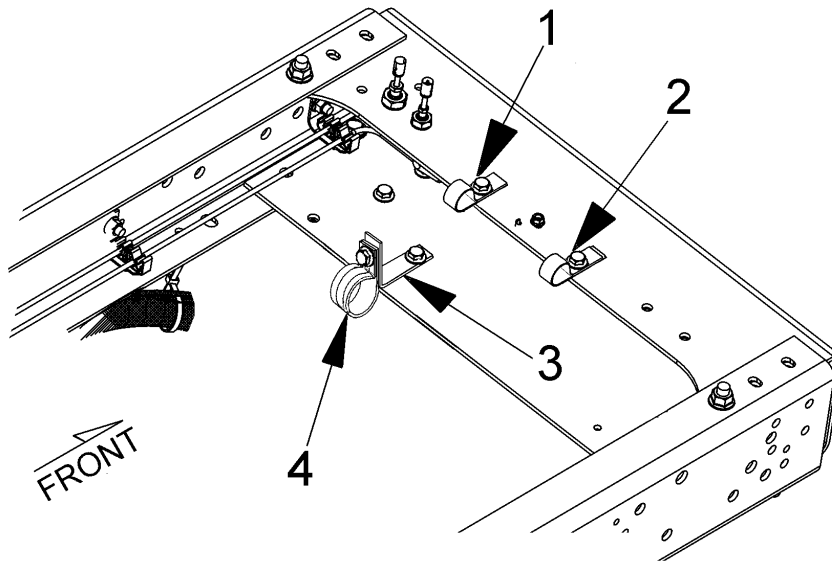

Figure 3 Install P-Clips
6. Use the original fasteners and a small P-clip to secure the harness at the point where the passenger side bracket was removed. Orient the P-clip with the loop to the rear, facing up (Figure 3, Item 2).
7. On the driver side, two P-clips (Figure 3, Item 1 and Item 4) will be installed in place of the driver side brackets using the original fasteners. The larger clip, Figure 3, Item 4, must secure the larger harness, and is fastened to the existing "L" bracket, Figure 3, Item 3, with the P-clip loop facing down. The small clip, Figure 3, Item 1, must secure the small harness and should have the loop facing up (Figure 3, Item 1, Item 2, and Item 4).